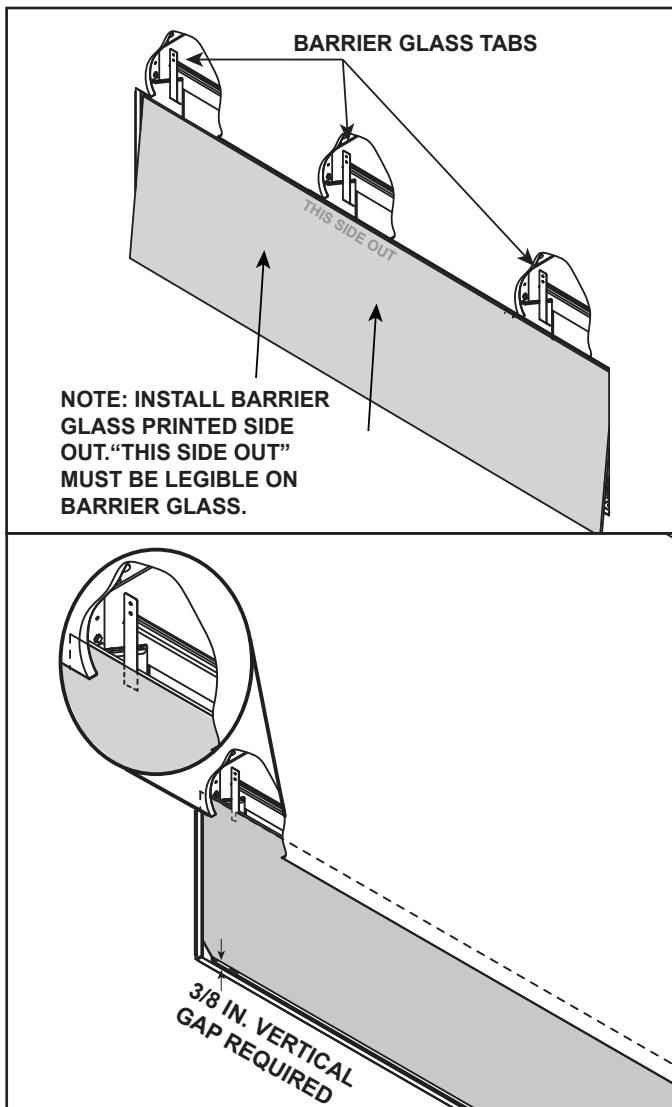

Figure 11.3. Replace Barrier Glass - Clean Face Finish
2. Tilt glass and slide glass between finishing material and barrier glass tabs. See Figure 11.3.